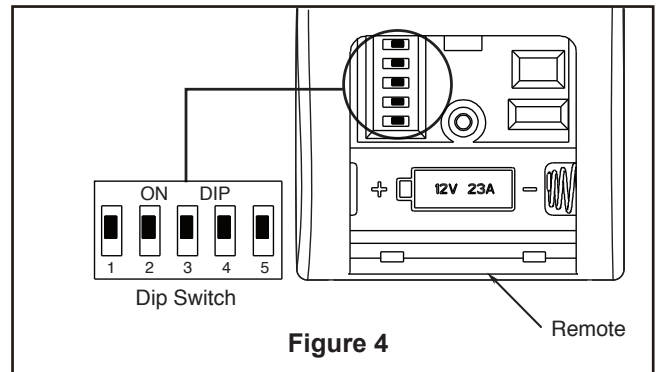

Figure 4
4. To set the remote code with a small screwdriver or ball point pen (neither included), slide dip switches firmly up or down. (Figure 4)